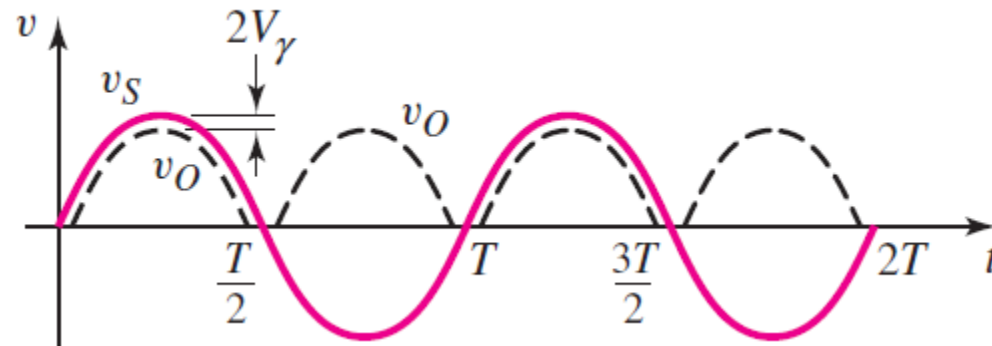
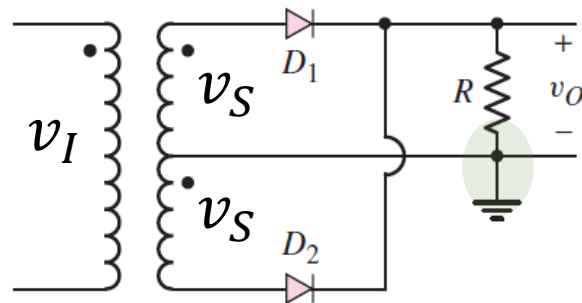

Figure 2.6(c)
Figure 2.5(a)
- Figure 2.6(c) shows the sinusoidal voltage  $v_S$  and the rectified output voltage  $v_O$ .
- **One more difference** to be noted in the bridge rectifier circuit in Figure 2.6(a) and the rectifier in Figure 2.5(a) (center-tapped rectifier) is the ground connection  .
- The center tap of the secondary winding of the circuit in Figure 2.5(a) is at ground potential.